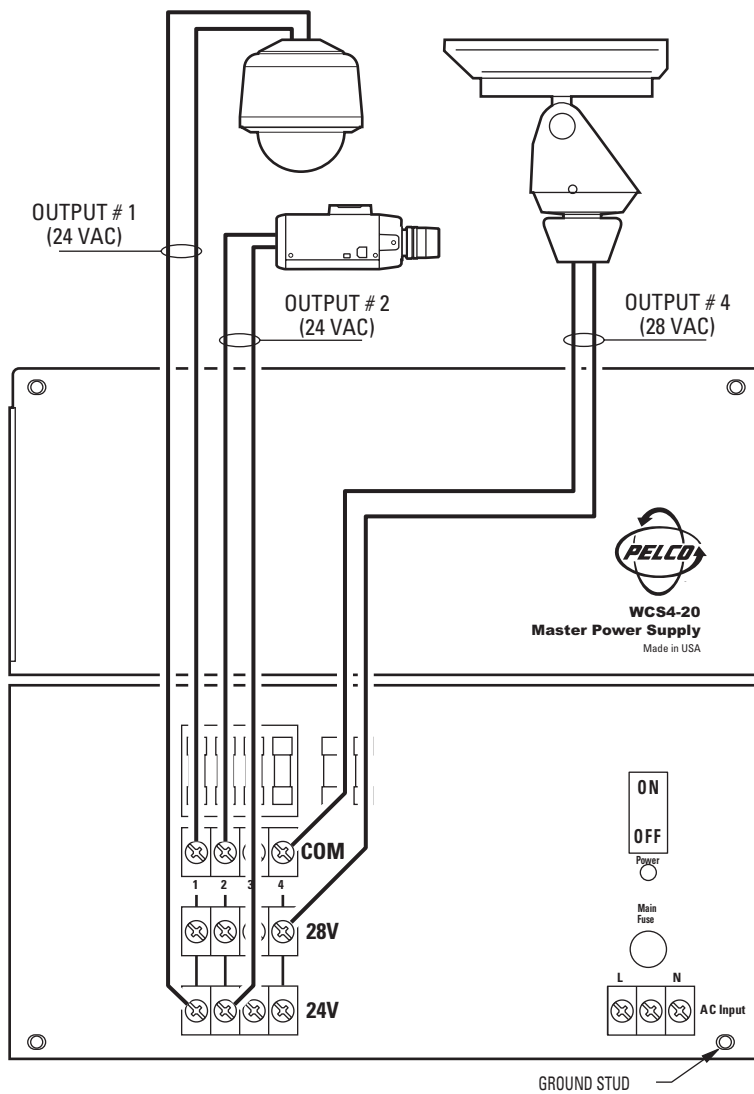

Figure 1. WCS Unit Wiring Connector Diagram
2. Refer to Figure 1 for the proper connector strip connections.